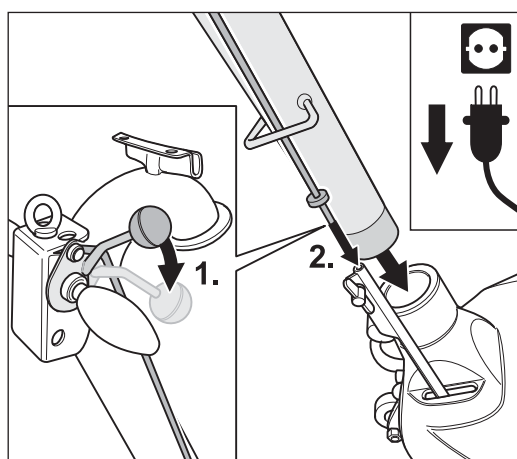

Fig. 49 When inserting the guide tube, make sure that the upper rod of the lowering mechanism feeds in correctly!
- 1 Press the lowering lever at the handle downwards (Fig. 49, 1.).
- 2 Insert the guide tube into the opening in the machine housing and at the same time insert the upper rod into the lower rod (Fig. 49, 2).